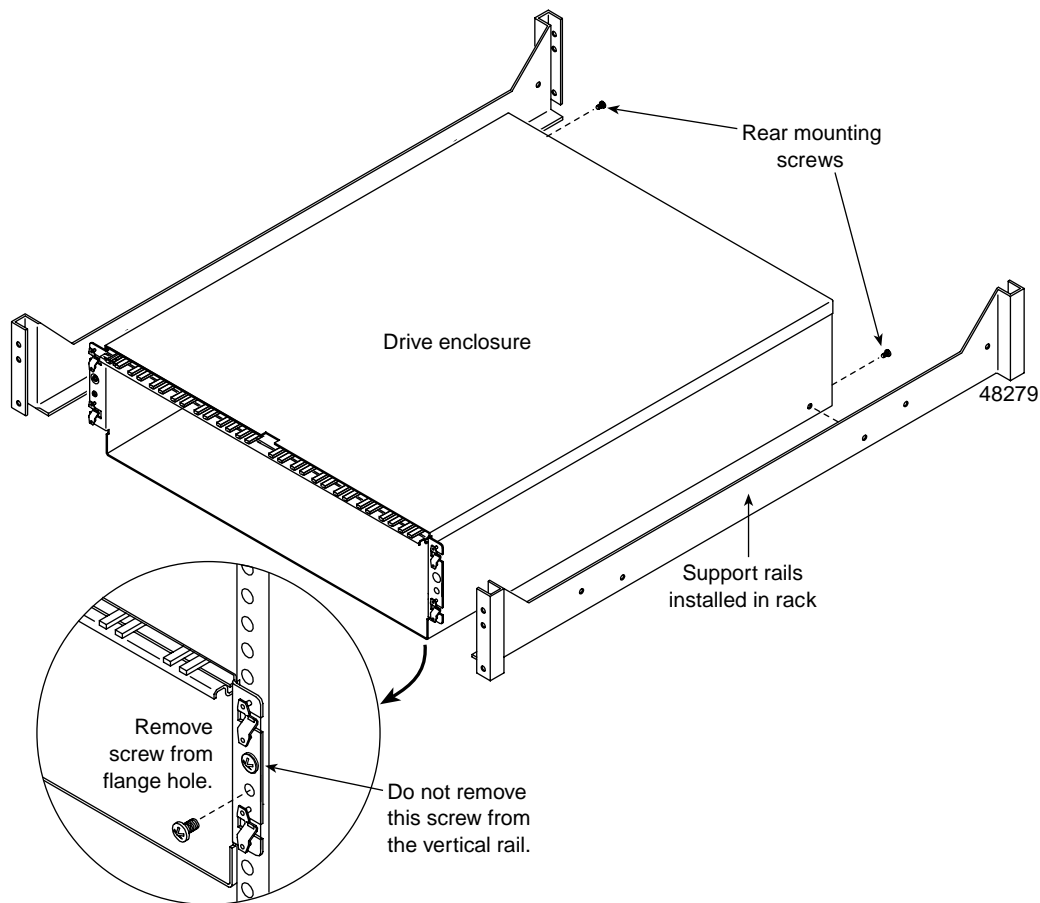

Figure 3-5 Removing the Empty Drive Enclosure
5. Remove the front and rear mounting screws (see Figure 3-5). There are two mounting screws at the rear, one for each support rail, and two mounting screws in the front, one in each flange.
2. From the front of the rack, slide the enclosure into the rack along the support rails (see Figure 3-5).
3. Fasten the rear and front mounting screws (see Figure 3-5).